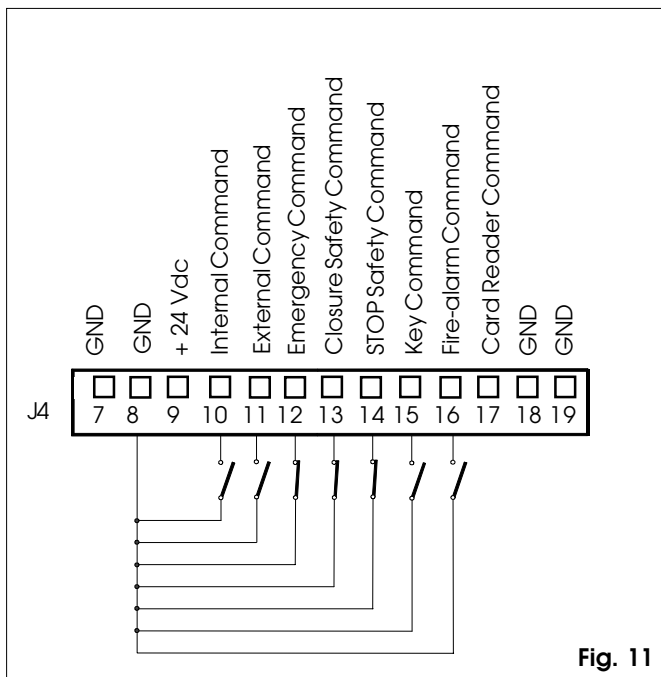

Fig. 11
⑤ J4 TERMINAL BOARD Inputs Connection (figs. 11, 12, 16)